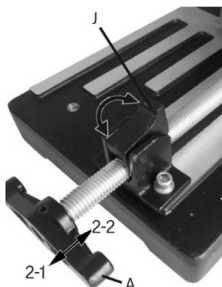

Fig. 2
2. Loosen the pivoting handle (A) at the base of the tool (Fig. 2).